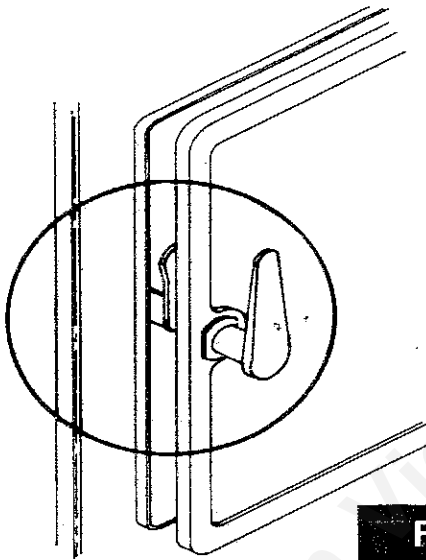

FIG. 26
2. Turn handle clockwise to the 12 o'clock position, pull the door open until you engage the second step. (Fig. 26).